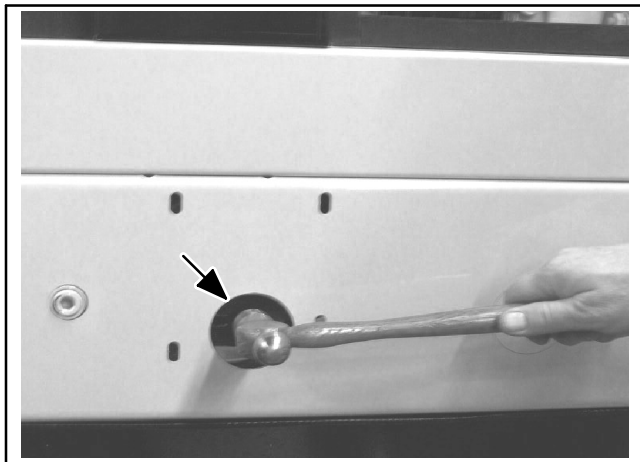

Figure 4 Remove Knockouts
- 1.2.9 Remove two 63.5 mm (2 1/2 in.) dia. knockouts from the skid. See Figure 4.